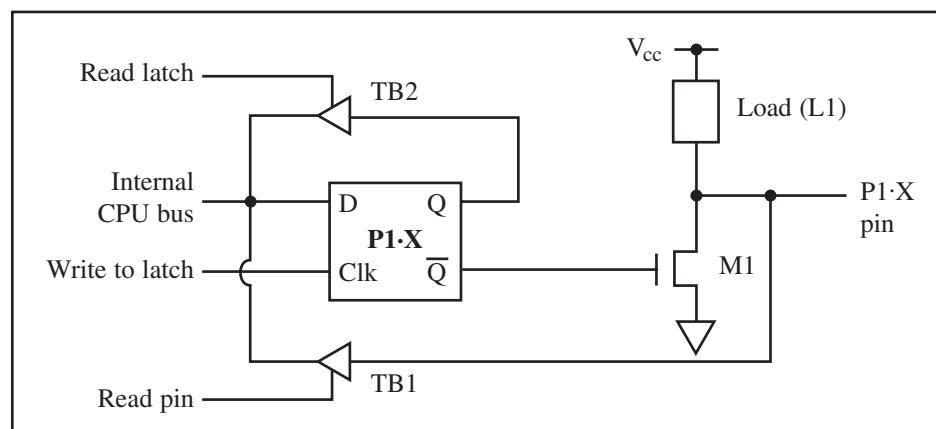

Figure 10. 8051 Port 1 Structure
Figure 10 shows the structure of P1 and its three components. The other ports, P2 and P3, are basically the same except with extra circuitry to allow their dual functions. Notice in Figure 10 that the L1 load is an internal load for P1, P2, and P3. As we will see at the end of this section, that is not the case for P0.
Also notice that in Figure 10, the 8051 ports have both the latch and buffer. Now the question is, in reading the port, “Are we reading the status of the input pin or the status of the latch?” That is an extremely important question and its answer depends on which instruction we are using. Therefore, when reading the ports there are two possibilities: (1) reading the input pin